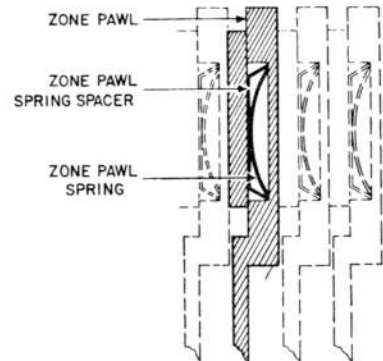

Figure 10A. Zone Pawl Springs
**Caution:** Anytime the zone pawl retainer plate and zone pawl restoring lever bar are removed from the print unit, use care to avoid raising the zone pawls because the zoning pawl friction springs may fall out of position. (FIG. 10A)